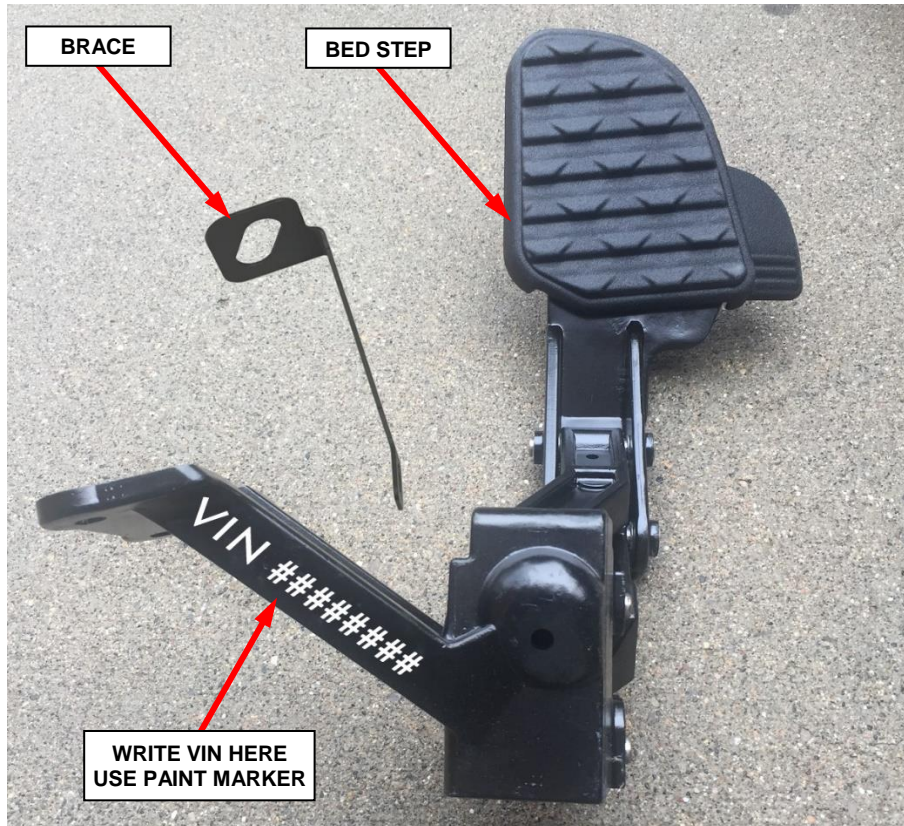

Figure 4 – Photograph Bed Step and Brace with VIN
7. Using a paint marker, write the Vehicle Identification Number (VIN) on the bed step. Then photograph the bed step with brace making sure VIN is clearly visible in the photograph. This photograph will be required during recall completion claim submission (Figure 4).